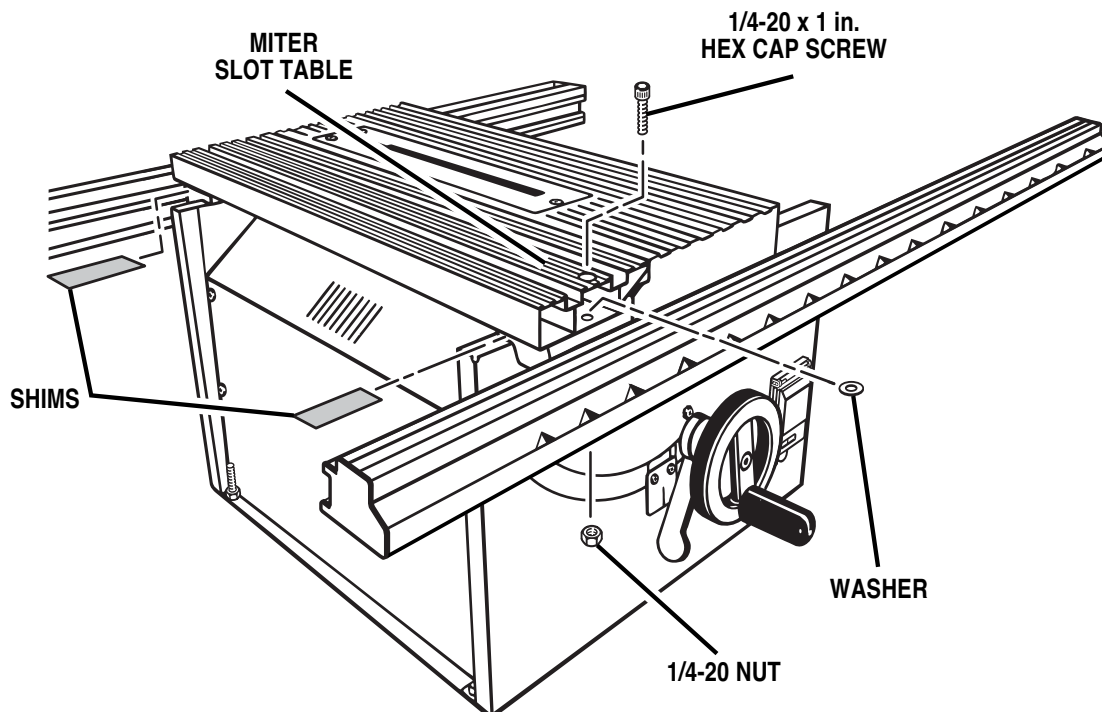

Fig. 3
See Figure 3.
- Place the miter slot table onto the saw as shown in Figure 3.